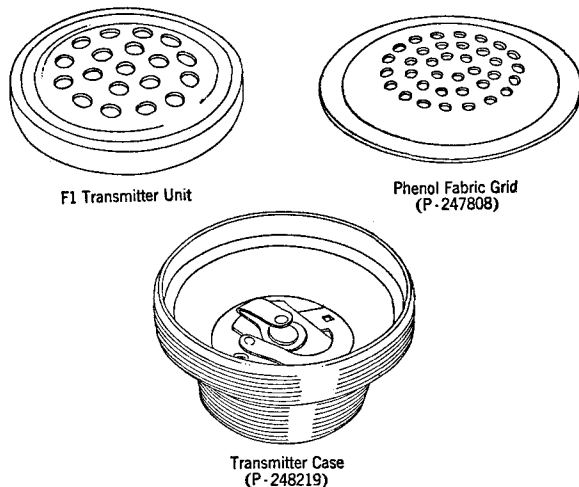

Fig. 1—Parts of 625A Transmitter.
2.01 The 625A transmitter unit is a new type consisting of an F1 transmitter unit, a phenol fabric grid and an aluminum transmitter case (adapter) which is similar to the case of the 395 type transmitter unit on which the standard mouthpiece and lock ring are assembled. The transmitter case comes equipped with condenser. Fig. 1 shows the F1 unit, a black grid and the case.